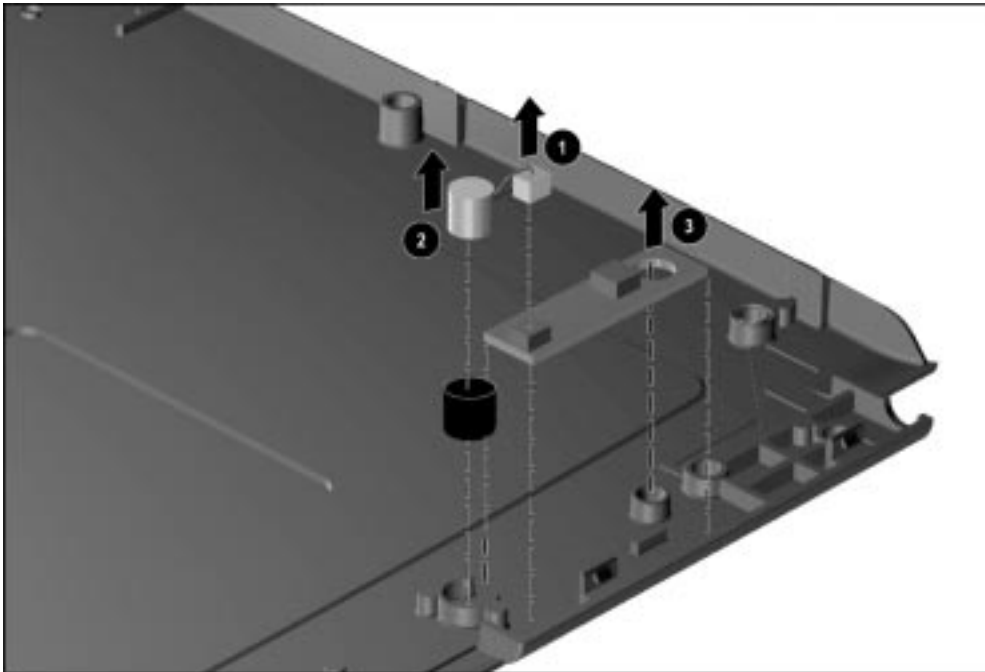

Figure 5-41. Removing the Microphone
7. Disconnect the microphone cable from the microphone board ❶ and remove the microphone ❷ (Figure 5-41).
8. Remove the microphone board from the enclosure ❸.